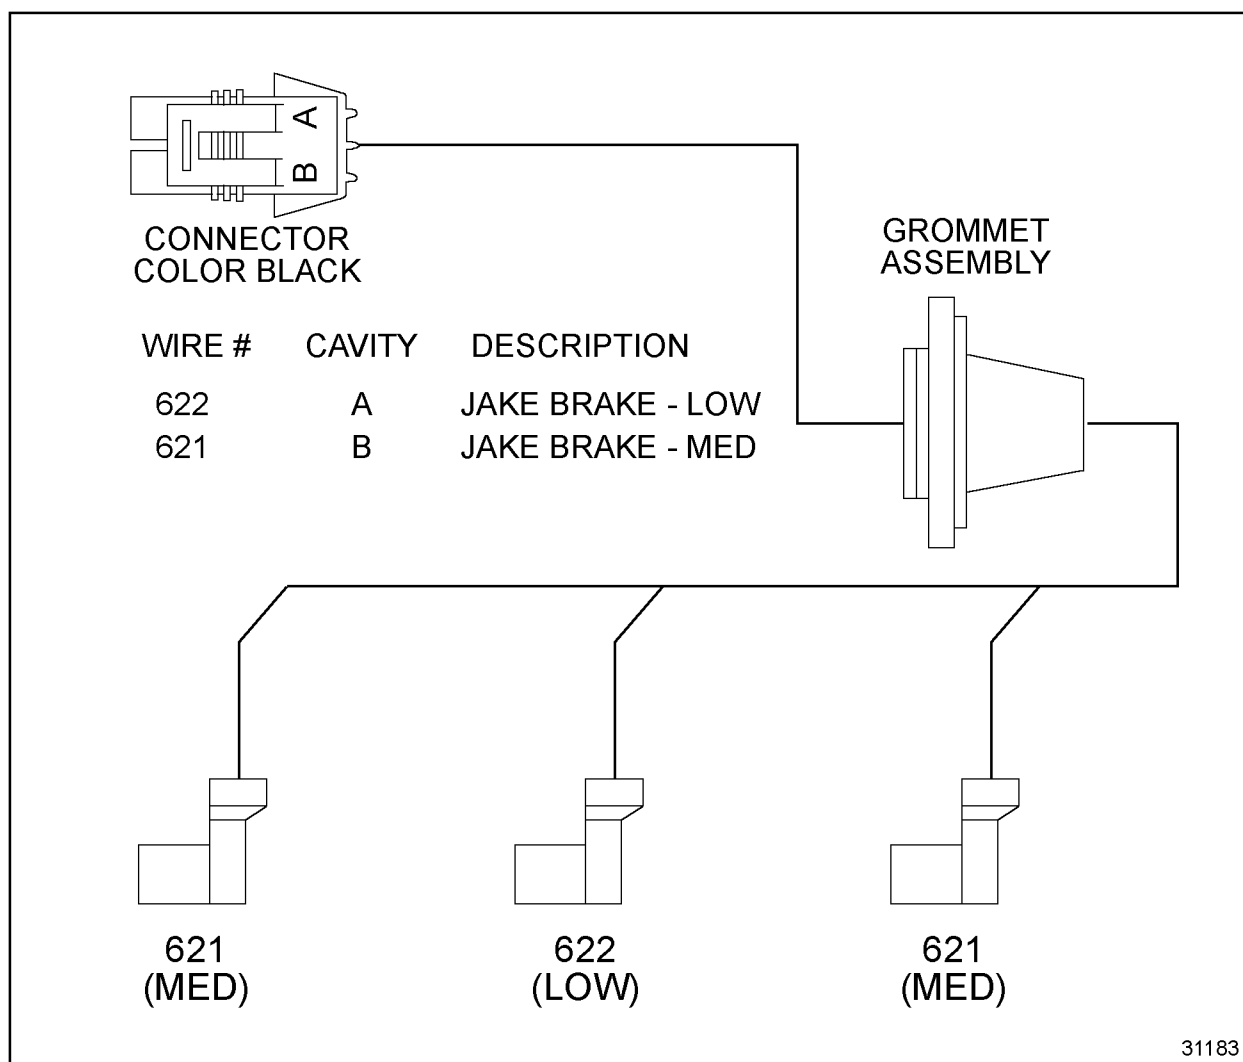

Figure 31-1 Engine Brake Harness Schematic
1. Reconnect the engine harness connector. See Figure 31-1.